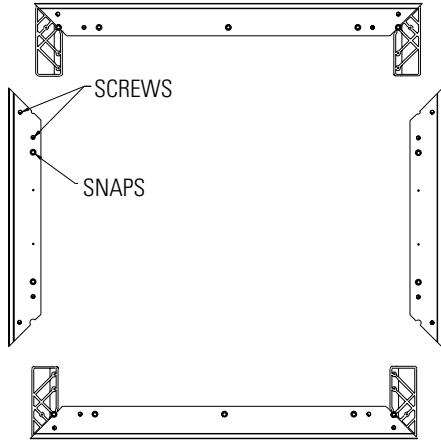

FIGURE 1 REAR VIEW
2. Slide the frame pieces together and secure them with the eight black screws provided. See Figure 1. **NOTE: The frame pieces are labeled "top" and "bottom". Be sure the frame pieces are assembled according to the labels. This will ensure the snap pattern on the frame and screen surface will match.**